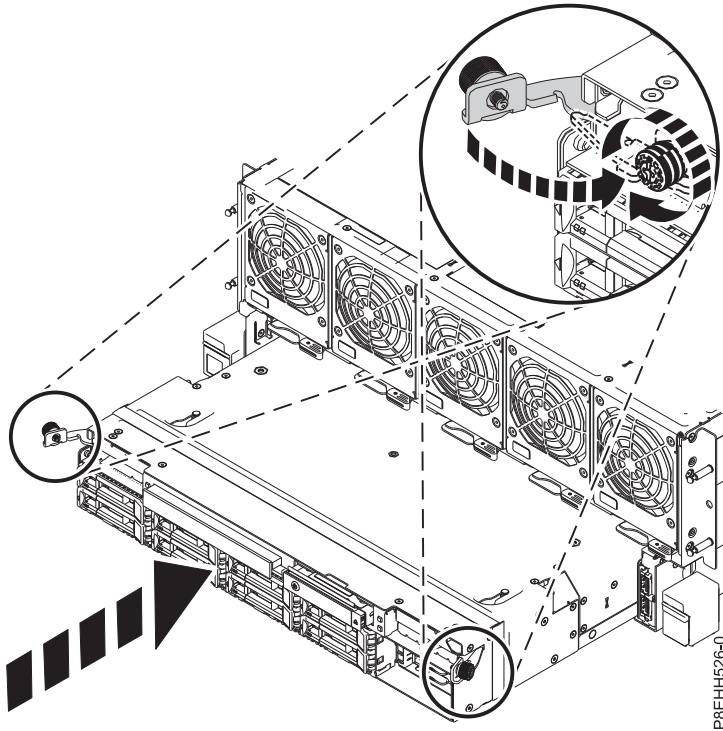

Figure 22. Replacing the RAID assembly
- a. Slide the RAID assembly into the system. Push latches in and tighten thumbscrews, as shown in Figure 22 on page 20.